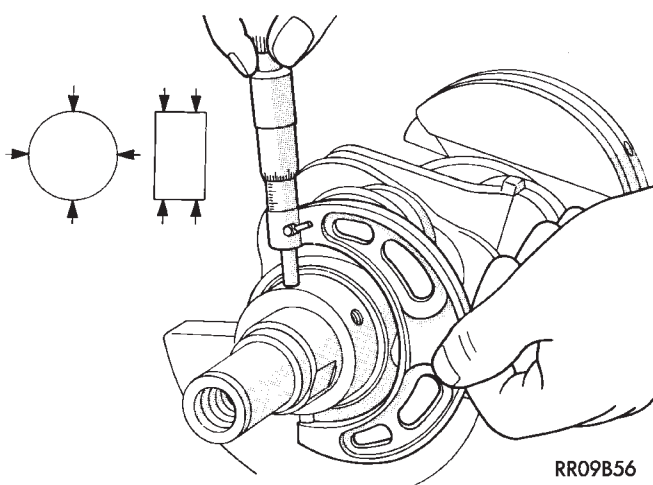

Fig. 6 Measure Crankshaft Journal O.D.
(1) Measure the journal outside diameter as shown in (Fig. 6). Refer to specification (Fig. 5).